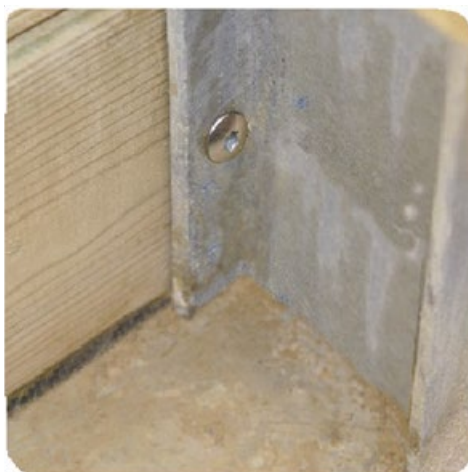

Figure 11 – Fastening the slats to the supporting braces
- fix them to the 8 supporting braces (these are pre-drilled as shown in *Figure 11*) using 80 torx safety screws 6 × 30 A2 SS (bag D).